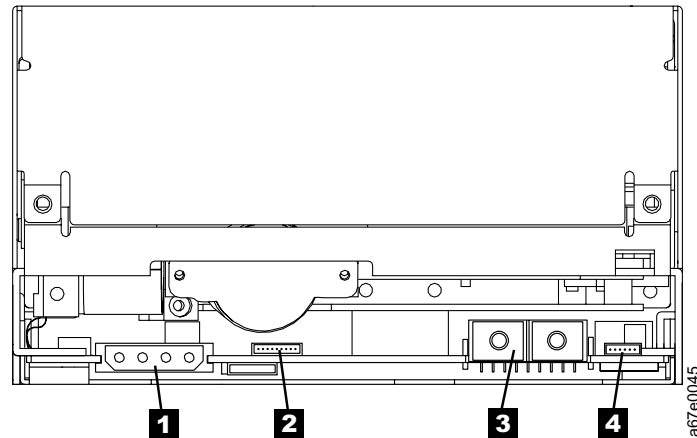

Figure 22. Rear View of the Ultrium Internal Tape Drive Model T200F (Fibre Channel Drive)
4. Disconnect the internal power cable from the power connector (see **1** in Figure 22).